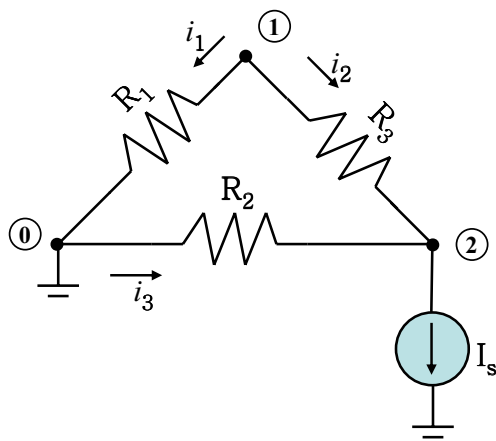

Figure 1: Our choice of current flows
b) First, we need to assign currents to the branches of the circuit, one of the choices which we pick is shown on fig. 1.